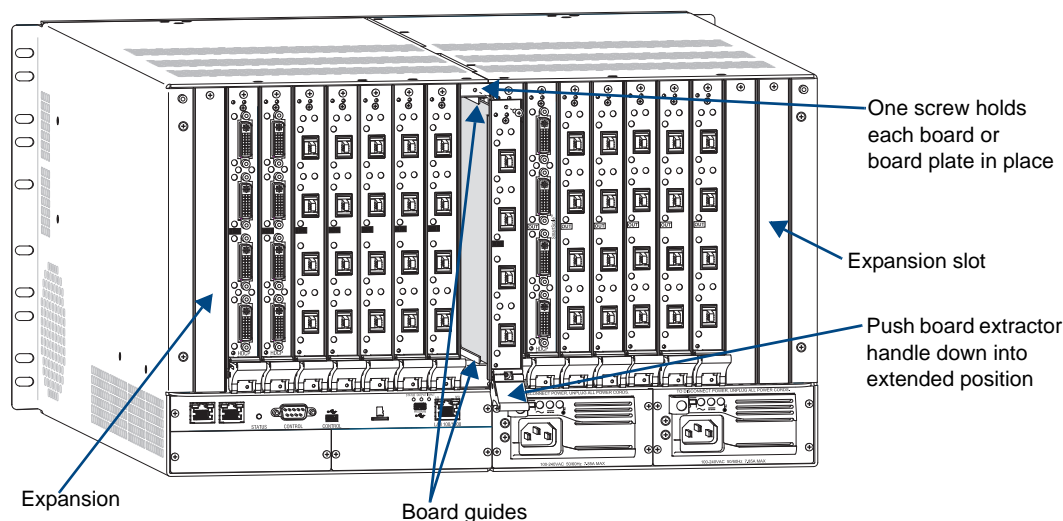
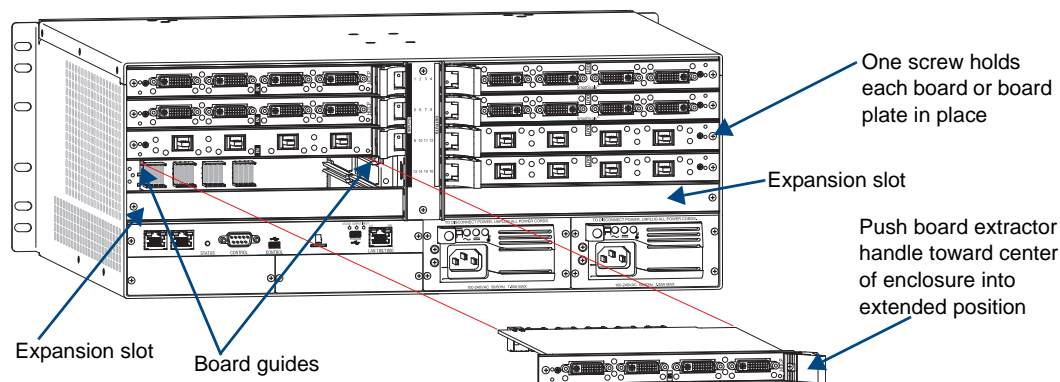

FIG. 106 Enova DGX 32 - Remove screw, push board extractor handle down, and then pull board straight out
FIG. 107 Enova DGX 16 - Remove screw, push extractor handle right (input) or left (output), pull board straight out
5. **Remove blank board plate** – Remove the screw that holds the board plate in place (for Enova DGX 32, see FIG. 106; for Enova DGX 16, see FIG. 107). Pull the plate out of the board slot opening (the tab on the end of the board plate fits in a slot near where the ejector handle would otherwise go). The plate consists of an aluminum sleeve with a black metal piece, which slides in and out of the sleeve, and an EMI (Electromagnetic Interference) gasket.
Remove current board – Remove the pan head screw that holds the board in place (for the Enova DGX 32, see FIG. 106; for the Enova DGX 16, see FIG. 107). Push on the board's extractor handle as far as it will go (about a 45° angle). With the handle extended, carefully pull the board straight out of the board slot. Place the board in an ESD approved static shield bag and set aside.
These boards can only be installed in an expansion slot (FIG. 106 and FIG. 107).
7. **Install board in Enova DGX 32** – With the board's extractor handle in the extended (unlocked) position, line up the board's edges on the board guides that are along the top and bottom of the board slot (FIG. 106).
Install board in Enova DGX 16 – With the board's extractor handle in the extended (unlocked) position, line up the board's edges on the board guides that are along the left and right of the board slot (FIG. 107). Note that input boards have board guides at the top of the slot and board guides for the output boards are at the bottom of the slot due to their reversed orientation in the enclosure.